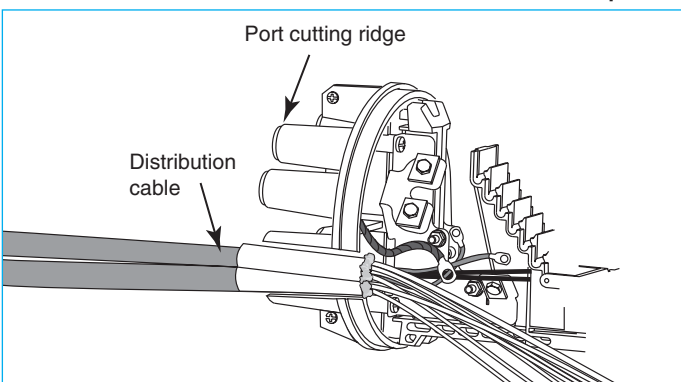

Figure 15.
- 9.1.2 Cut the end off the selected port at the ridge with a hacksaw. (Figure. 15)